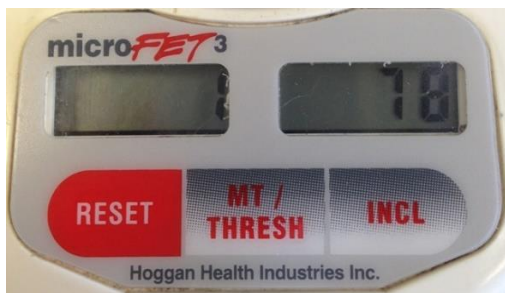

Figure 8. Inclinator Test Saved Results Example
- The device will display the angle measurement in the right display, and test number in the left display, (see Figure 8). Test angle results are displayed as whole angle or number.